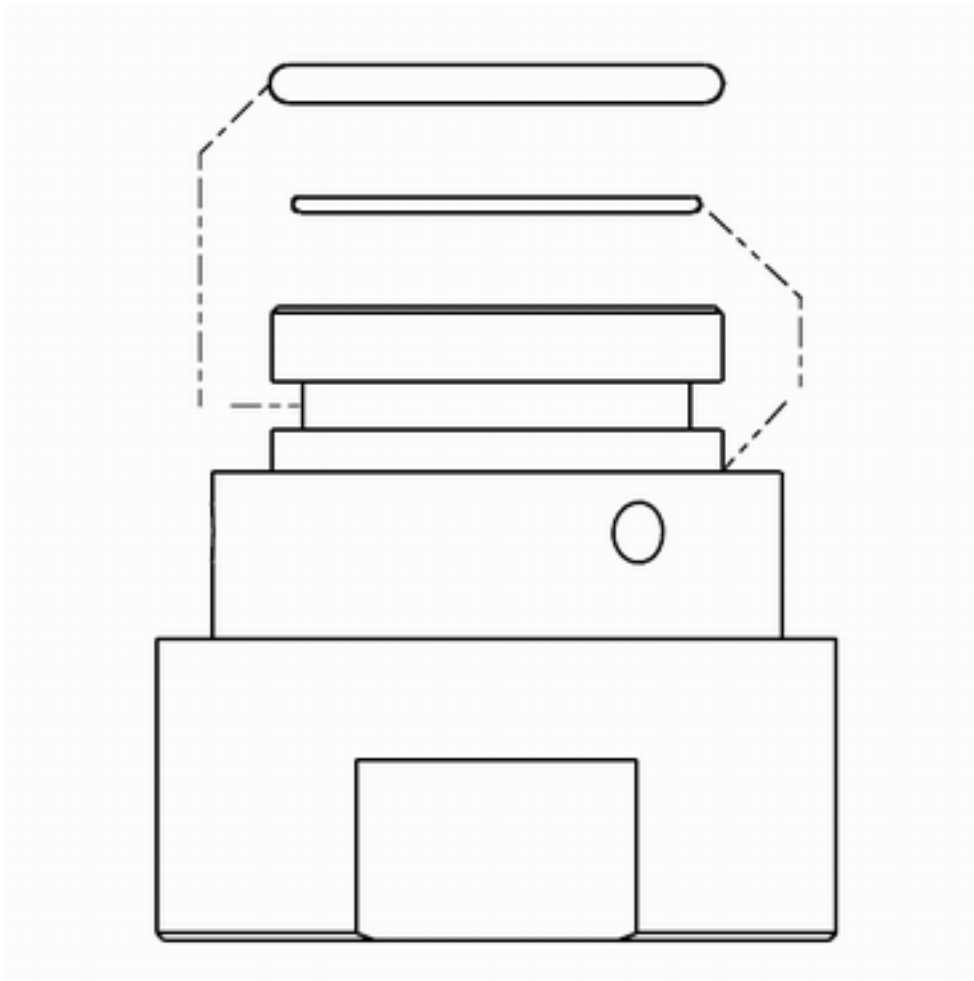

Fig. 42: Position of O-rings
- 1.** ➔ Carefully install the O-ring (seal) onto the process connection (*Fig. 40/01*), so that it rests in the upper O-ring groove of the process connection (*Fig. 42/01*). When doing so, be careful not to overstretch the O-ring.
2. Carefully install the O-ring (Glass buffer) onto the process connection (*Fig. 41/01*), so that it is properly seated on the lower portion of the process connection (*Fig. 42/02*). When doing so, be careful not to overstretch the O-ring.